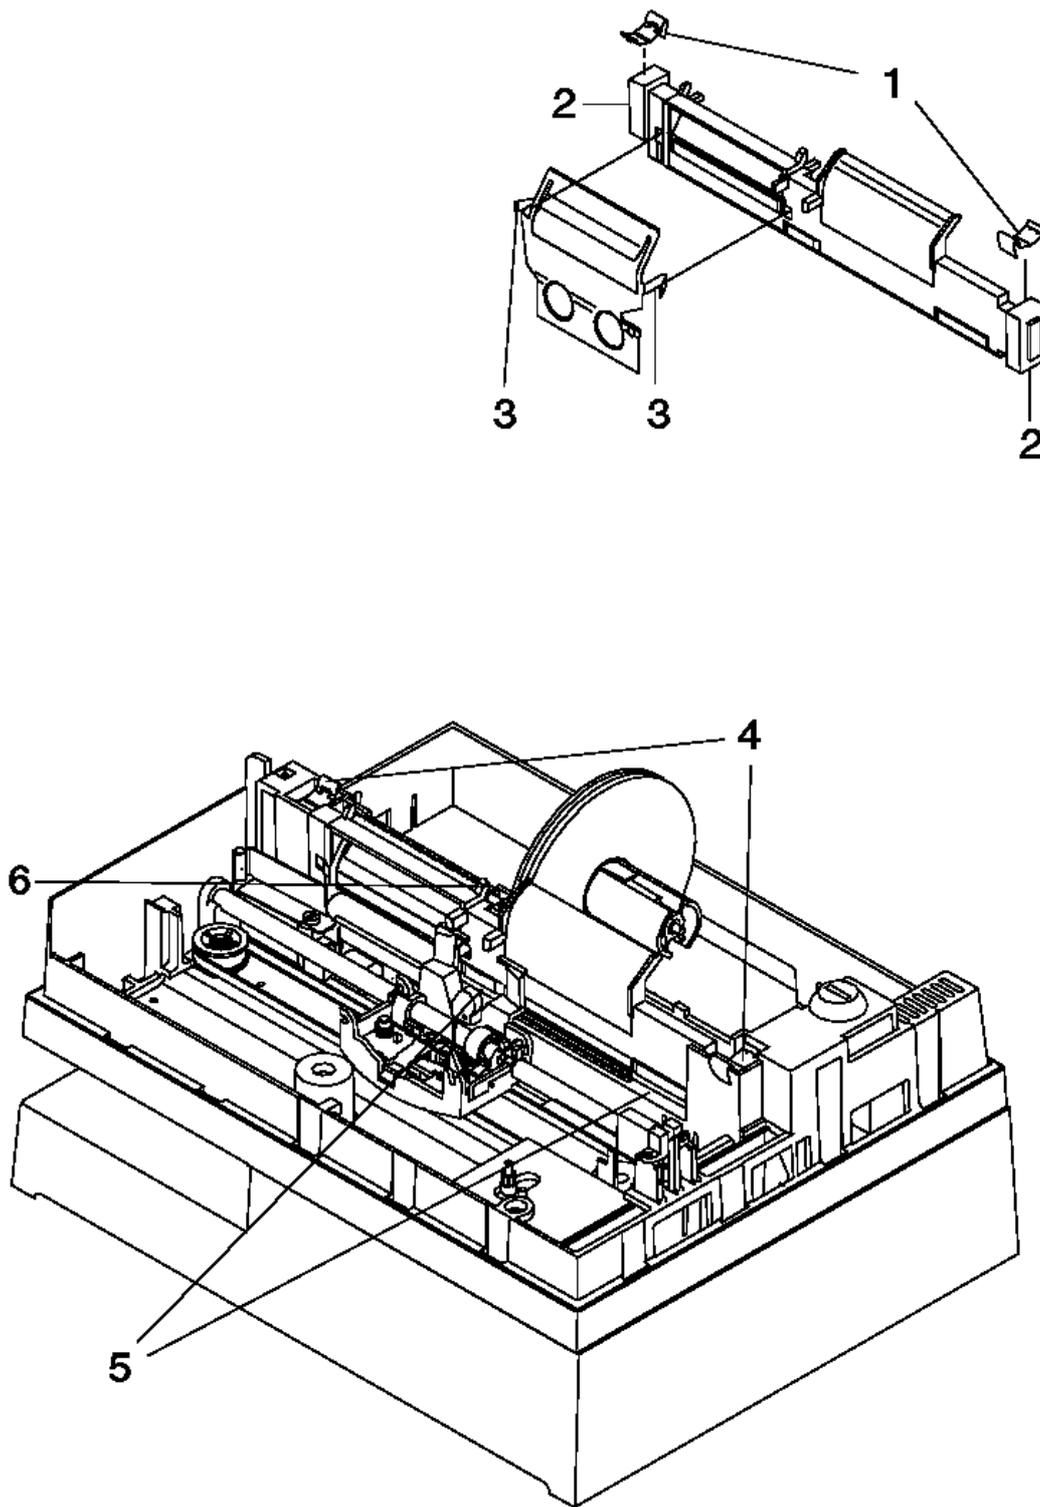

Figure 5-22. Platen and Paper Tear Guide
5. Remove the platen retainers (1). See Figure 5-22 in topic 5.5.16.2.
6. Hold the platen assembly at the journal station and lift up until the top roller (6) can be removed.
9. Move the holding tabs (3) (back of the platen) toward each other to release the paper tear guide.
1. Put the paper tear guide on the platen with its holding tabs (3) as shown in Figure 5-22. Ensure that the sawtooth edge goes through the slot in the platen before the holding tabs lock into place.
5. Lubricate the rubber boots (2) with silicon grease, P/N 265390. Put the boots into their slots (4).